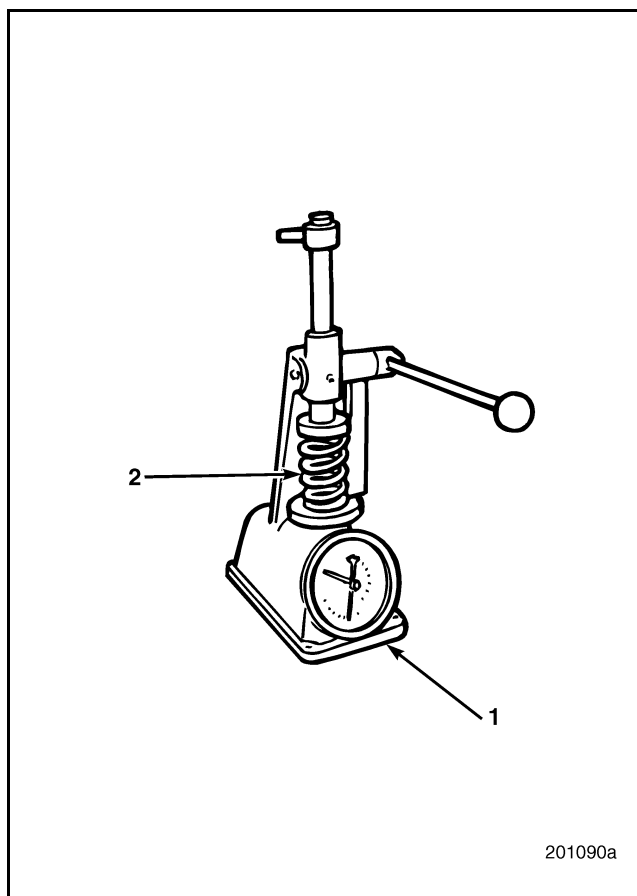

Figure 200 — Checking Valve Spring Pressure
2. Check springs on the universal spring tester J 22738-02 as shown in Figure 200. With springs compressed to 1.5 inches (38.1 mm), the pressure should be within specification, 190–210 lb (86.2–95.3 kg).